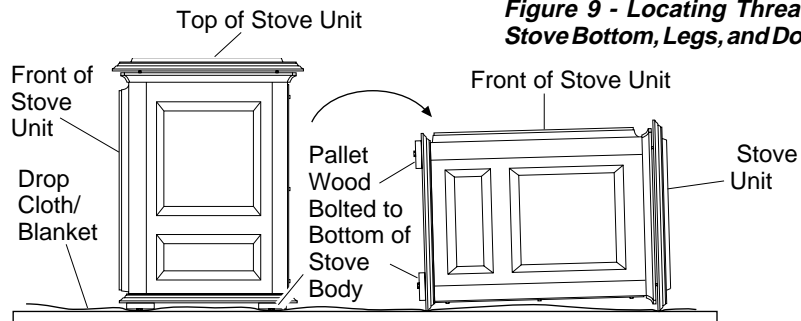

Figure 7 - Laying Down Stove On Side
- (1) - Hardware kit bag with fasteners
6. Carefully lay stove body on back to attach bottom components to stove body (see Figure 7). Rest stove on drop cloth or blanket to avoid scratching stove edges.